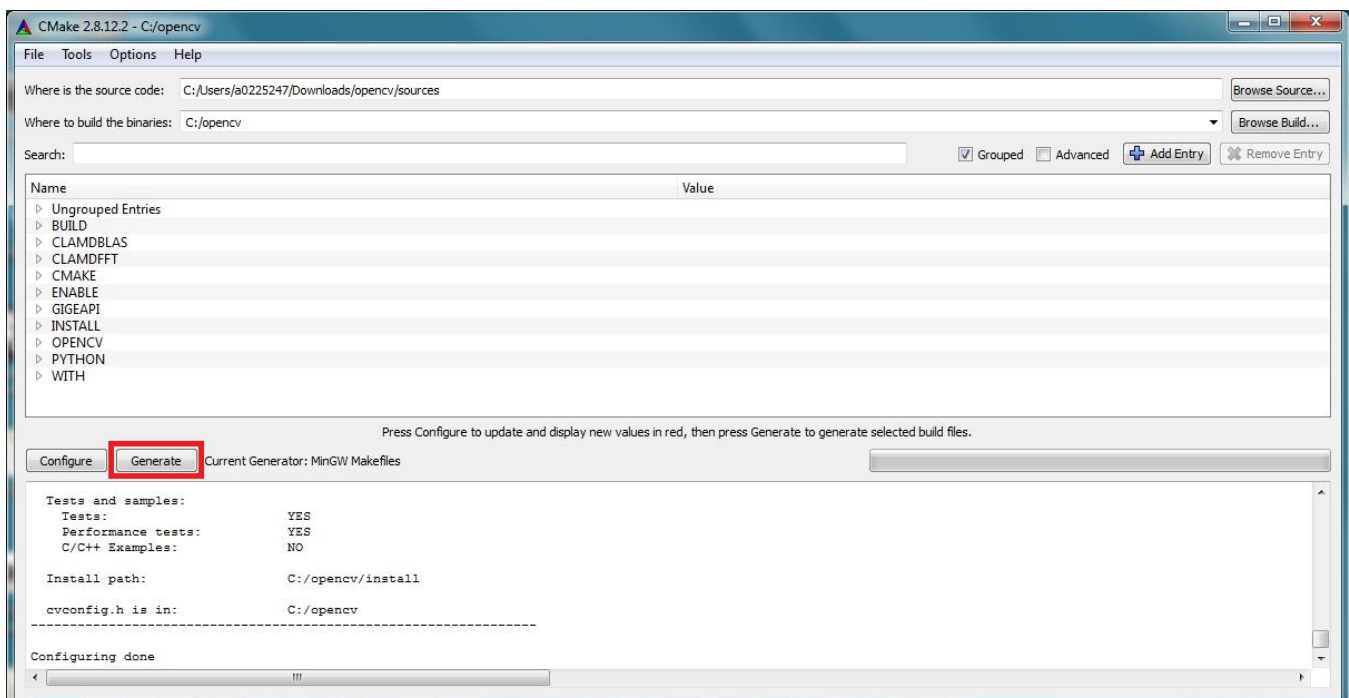

Figure 4-28. Cmake Make File Generation
18. Cmake is ready to create the make file for building OpenCV. Once all options are white in the option window, click the **Generate** button shown in Figure 4-28.